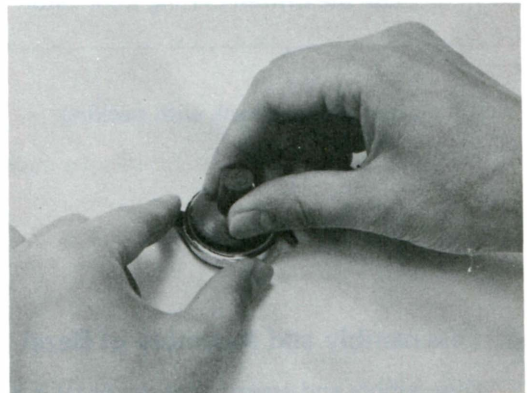

Fig. 6
(3) Insert the crystal glass.
- Hold the crystal glass with a rubber sucker. Then press the crystal glass strongly against the elliptical-ring and place it into position (Fig. 6).